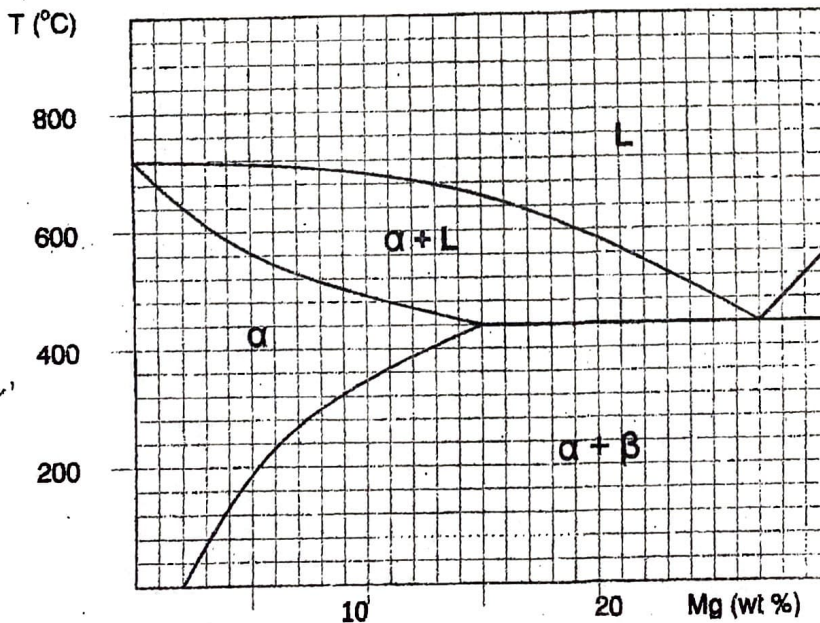

Figure 2
T.2. Figure 2 shows a part of the Al-Mg thermal equilibrium diagram.